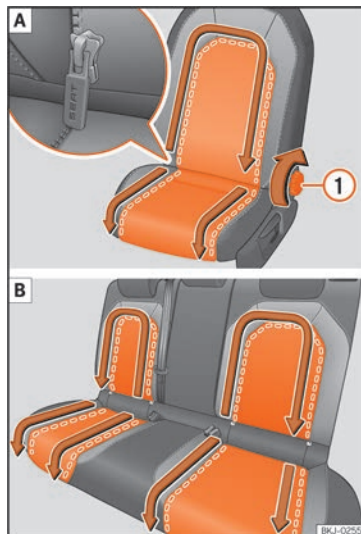

Fig. 153 Remove the covers. **A** Left front seat; **B** Rear seats
» **Fig. 153 ①**¹⁾.
- Move the handle of the zip in the direction indicated by the arrow » **Fig. 153**. The removable cover is released.
- Move the handle of the zip against the direction indicated by the arrow » **Fig. 153**.